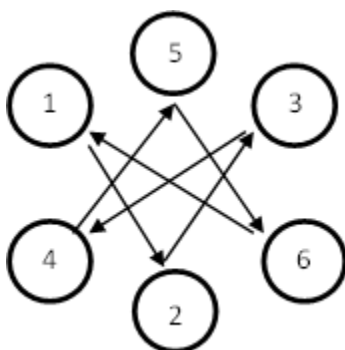

Figure 54: Propeller installation / propeller extension installation torque pattern.
Bolts / nuts should be torqued in the following sequence (as indicated in Figure 54) when securing the propeller extension to the engine hub or when securing a propeller to the propeller extension.
- Torque the bolts securing the propeller assembly to the propeller extension to the correct value (refer to paragraph 1.5.2). Torque in a star pattern / sequence as shown in Figure 54).